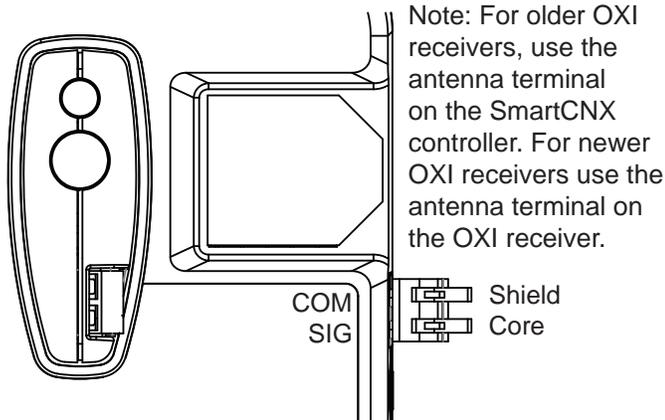

Figure 40. OXI Antenna Terminal
3. Install a whip or coaxial antenna into the OXI antenna terminal for better range (Figure 40). Mount any external antenna onto the top of a fixed fence post near the operator.